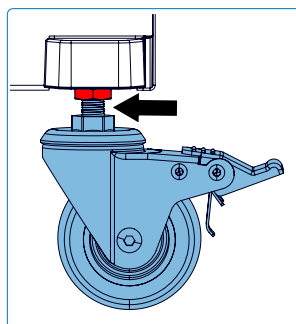
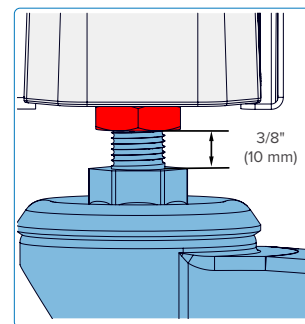

Fig. 19
Fig. 20
5. Once the desired height is reached, tighten the retaining nut against the appliance base to secure the caster in its new position. Do not exceed 3/8" (10 mm) when adjusting (**Fig.19 & Fig.20**). Repeat this procedure on the remaining casters until the grill is level and fully supported on each corner.